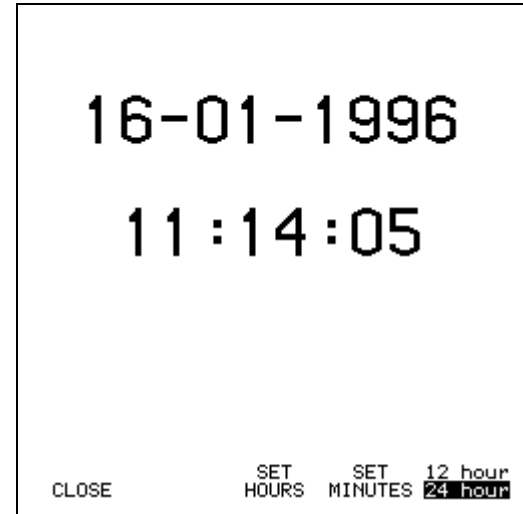

Figure 6-11. Menu for Setting the Time
2. Press  (SET TIME) to open the time setting menu. Figure 6-11 shows an example of this menu.